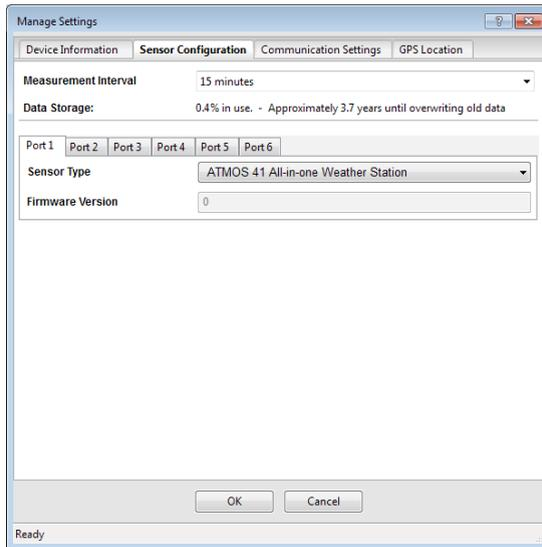

Figure 5 Sensor Configuration tab
8. Navigate to the Sensor Configuration tab (Figure 5).